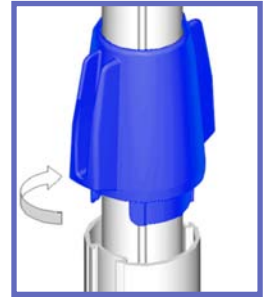

Fig. 32
- 7) Loosen the post by rotating the handle as shown in Fig. 32: